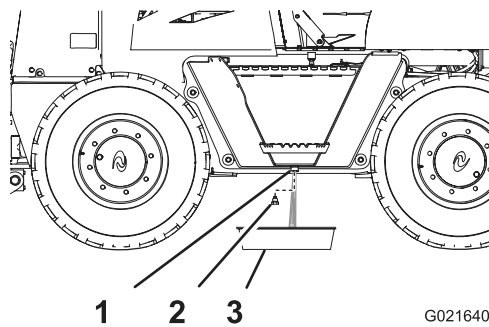

Figure 53
2. Unscrew the drain plug from the fuel tank and drain the water (Figure 53).
3. When clean fuel appears, install the drain plug and tighten it securely (Figure 53).